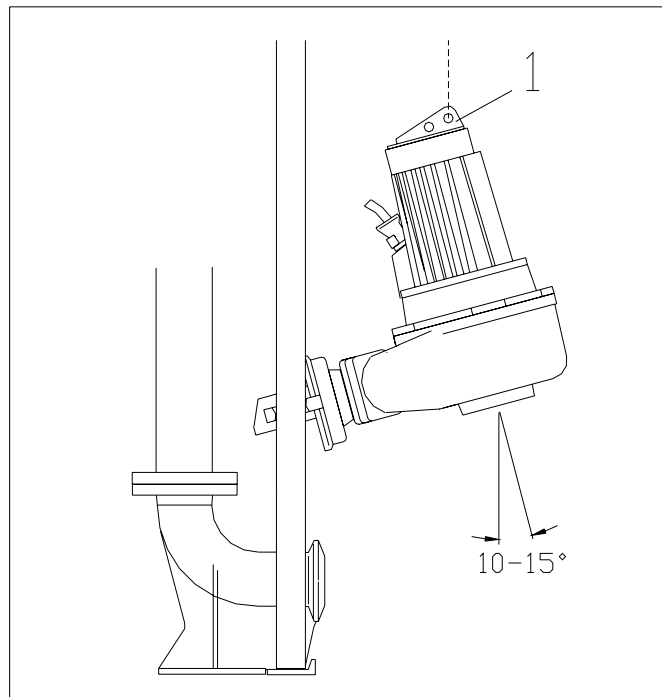

Fig. 6.4
- The installation angle must be about 10-15° (see Fig. 6.4). If necessary, this angle can be changed by alteration of the position of the lifting hook on the suspension bracket on top of the motor (pos. 1).